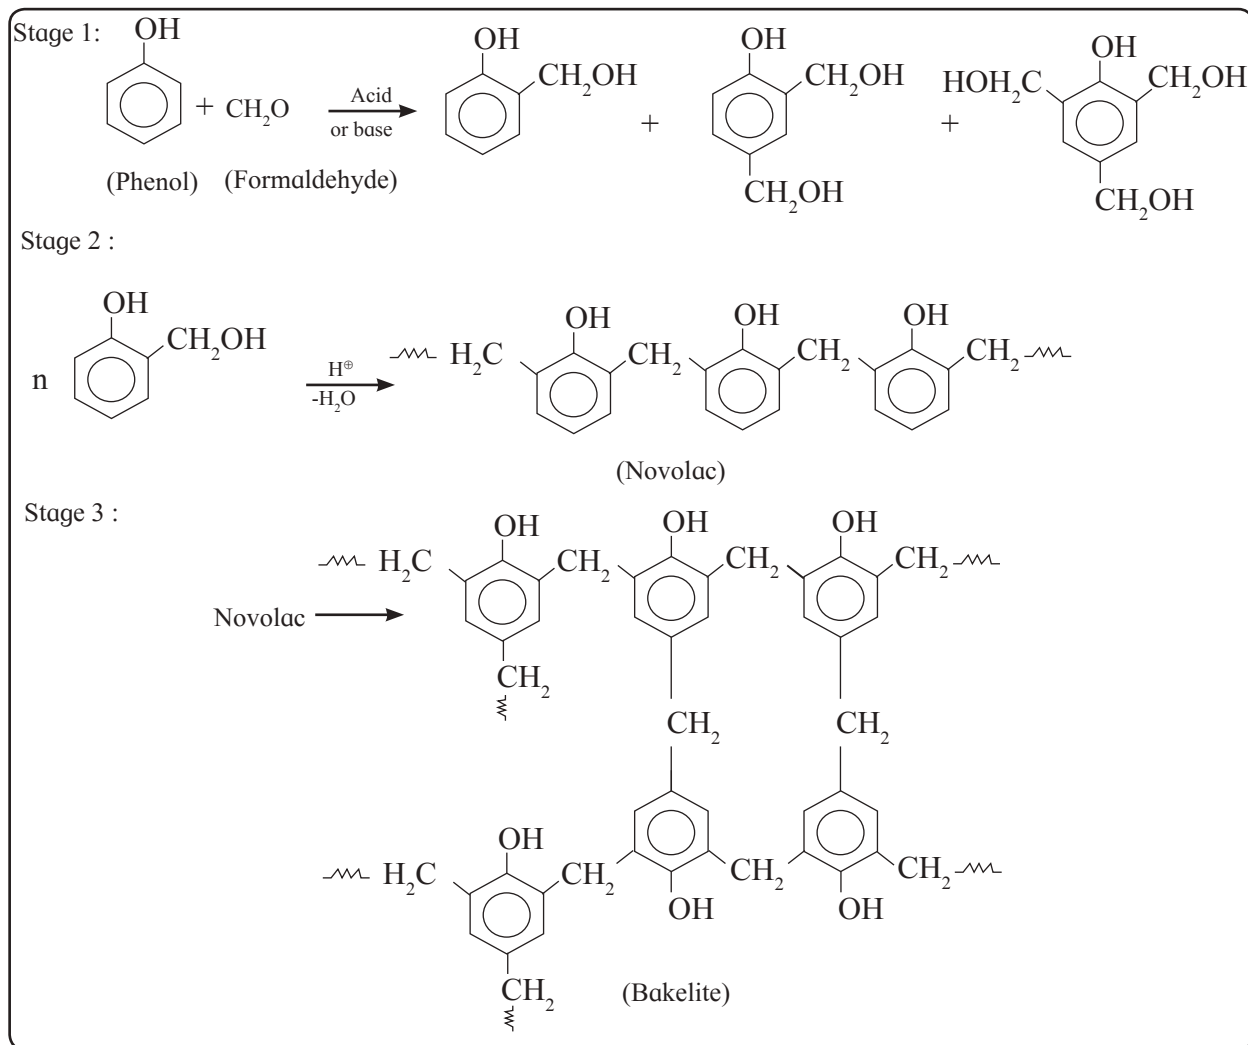

Fig. 15.3 Preparation of Bakelite
a. Bakelite : Bakelite, the thermosetting polymer obtained from reaction of phenol and formaldehyde is the oldest synthetic polymer. Phenol and formaldehyde react in presence of acid or base catalyst to form thermosetting/moulding powder (novolac) in two stages. In the third stage, various articles are shaped from novolac by putting it in appropriate moulds and heating at high temperature (138°C to 176°C) and at high pressure. The reactions involved are represented in the Fig. 15.3.